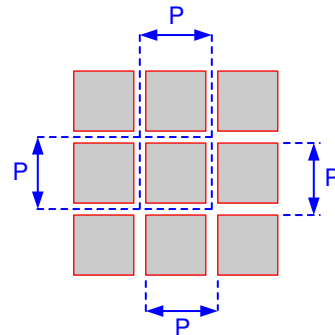

图 6-8. Micromirror Array Physical Characteristics
- (1) See 图 6-8.
(2) The structure and qualities of the border around the active array includes a band of partially functional micromirrors called the *Pond Of Mirrors* (POM). These micromirrors are structurally and/or electrically prevented from tilting toward the bright or “on” state but still require an electrical bias to tilt toward “off.”